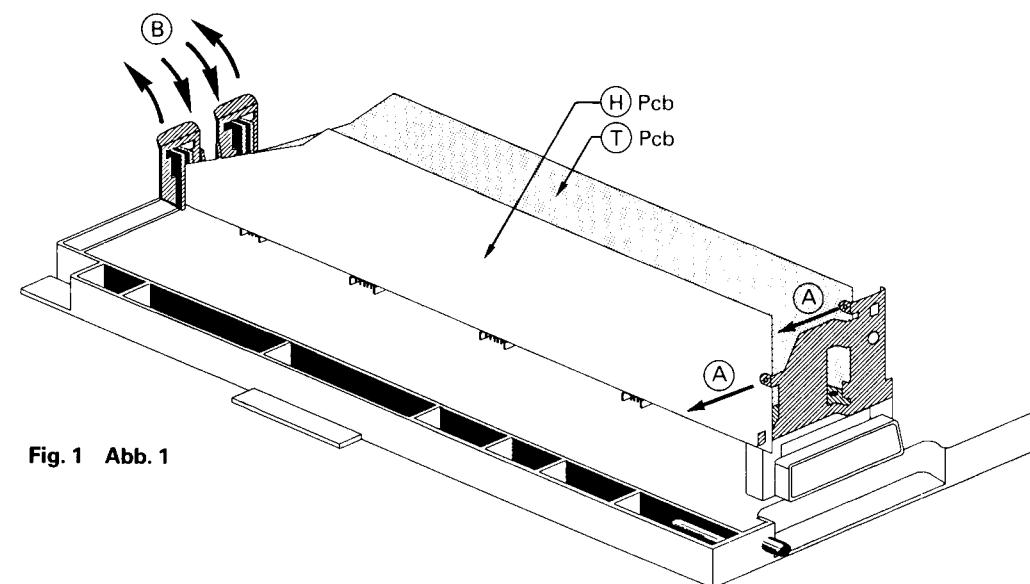

Fig. 1 Abb. 1
1. Remove plastic rivet (A) and release the plastic support bracket (B). Refer to Fig. 1